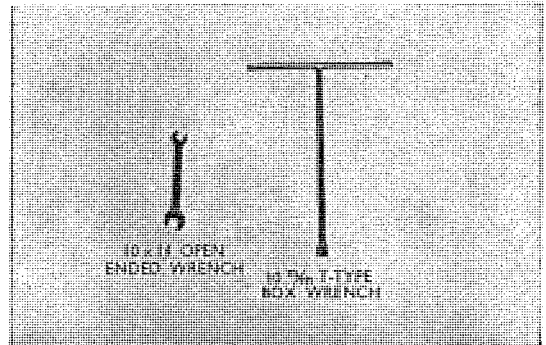

Fig. 4.56 Tools required for disassembly and assembly of air cleaner tool case
1. Tools required for disassembly and air cleaner and tool case. (Refer to Fig. 4.56)